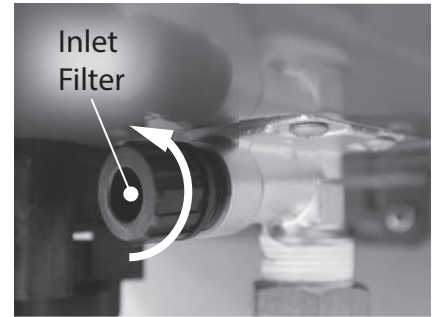

Figure 128 - Removing the inlet filter
- 15** Locate the screw securing the control board panel as shown in Figure 128. Use a Phillips screwdriver to remove the screw and place it aside in a safe place for reinstallation.